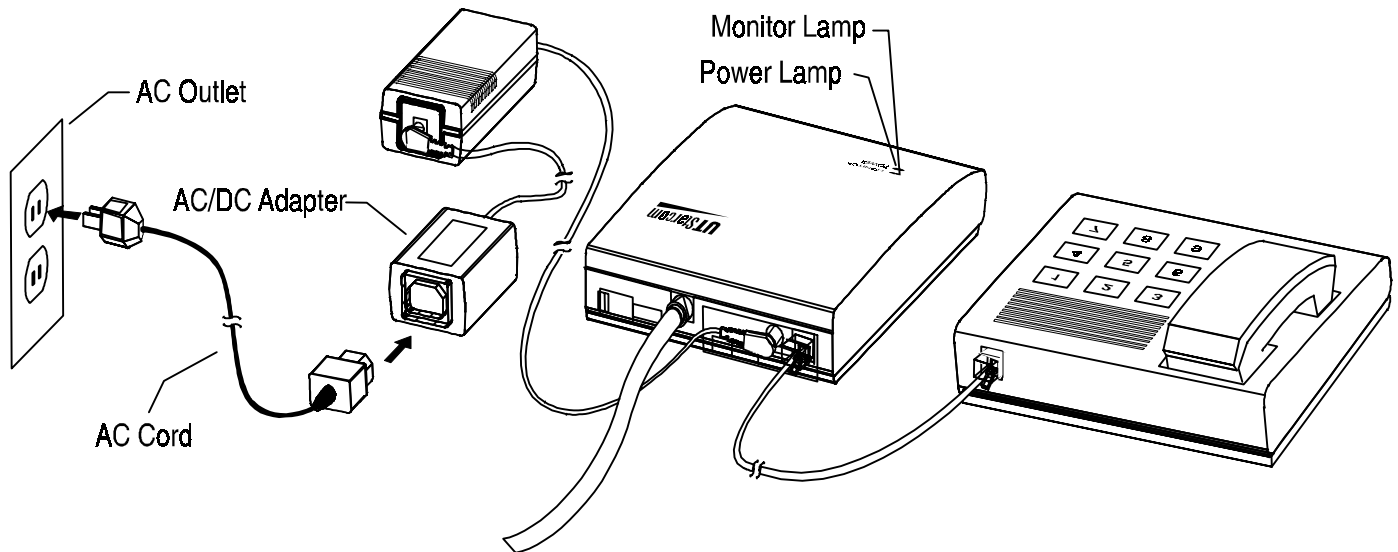

Figure 4-16 : AC Outlet Connection
6. Connect the AC/DC Adapter to an AC outlet. Refer to Figure 4-16. The Monitor Lamp on the FSU should light, indicating the line is ready for use. If the Monitor Lamp blinks or does not light, adjust the antenna until the Monitor Lamp remains lit. If the Monitor Lamp does not light after antenna adjustment, contact a qualified service technician.